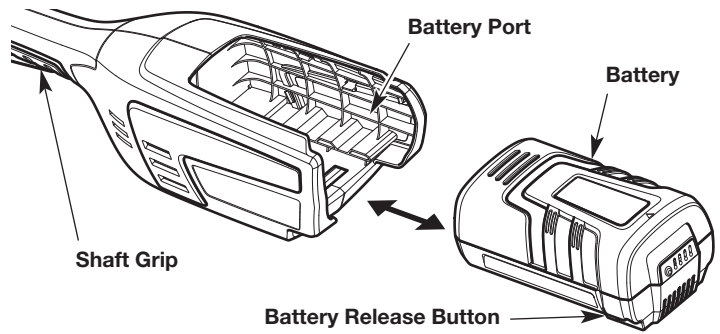

Fig. 9
1. Grasp the shaft grip firmly (Fig. 9). **DO NOT** press the trigger lockout and **DO NOT** squeeze the trigger. Refer to *Starting and Stopping*.
2. Slide the battery into the battery port (Fig. 9). Push the battery firmly until the battery locks into place (Fig. 9). There should be an audible “click.”
2. Press the battery release button to unlock the battery (Fig. 9).
3. Pull the battery out of the battery port (Fig. 9).